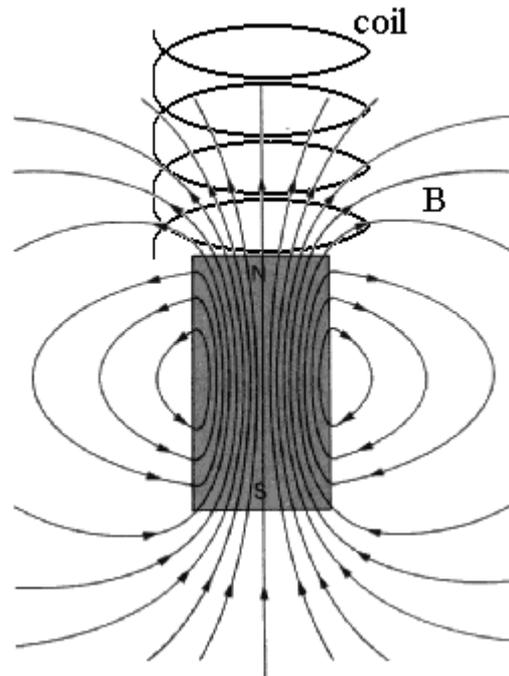

Fig. 3
Now think about a magnet dropping through a coil. We can see from Fig. 3 below that the flux through each turn involves an integration, over the coil cross-section, of a \mathbf{B} field that varies in strength and angle over the area. Furthermore, the flux through an individual turn diminishes as the magnet gets further away from the turn.
10. In Figs. 3 and 4, why have the lines of **B** been shown inside the magnet as well as outside?